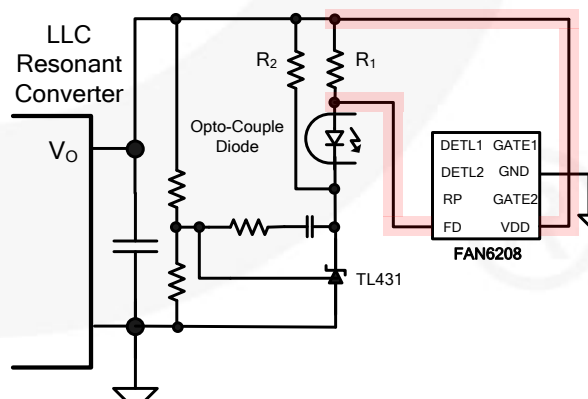
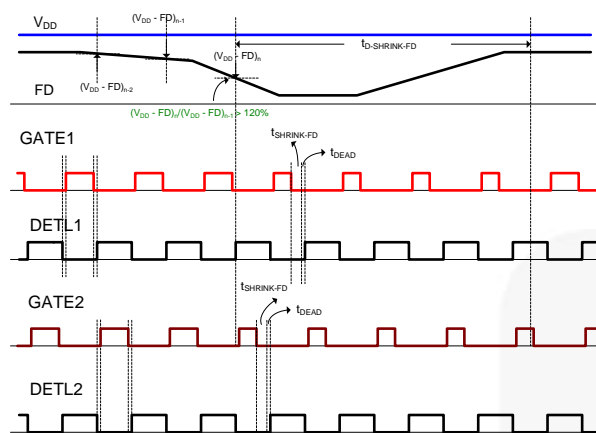
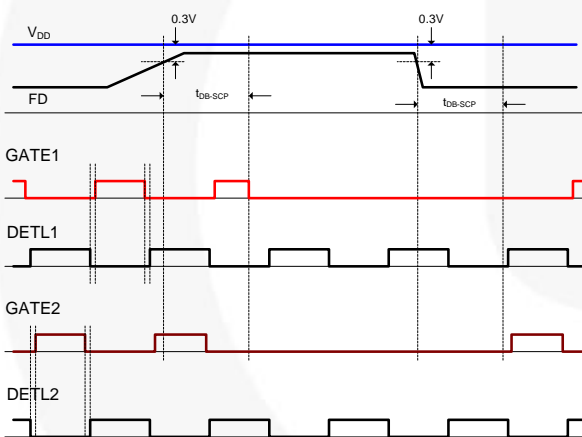

Figure 13. Typical Application Circuit
Figure 14. Gate Shrink by Feedback Detection
Figure 19. Output Short Protection by Feedback Detection
- (b) When the feedback information changes fast. FAN6208 monitors the current through the opto-coupler diode by measuring the voltage across the resistor in series with the opto-coupler diode, as depicted in Figure 13. If the feedback current through the opto-coupler diode increases by more than 20% of the feedback current of the previous switching cycle, the SR gate signal is shrunk by $t_{SHRINK-FD}$ (about 1.4 μ s) for $t_{D-SHRINK-FD}$ (about 90 μ s), as shown in Figure 14.
As depicted in Figure 13, FAN6208 monitors the current through the opto-coupler diode by measuring the voltage across the resistor in series with the opto-coupler diode. When the output of the power supply is short circuited, the output voltage drops and the cathode of the shunt regulator (KA431) is saturated to HIGH. No current flows through the opto coupler diode. The output short protection is triggered when the voltage between V_{DD} and FD is smaller than 0.3 V, as shown in Figure 19.